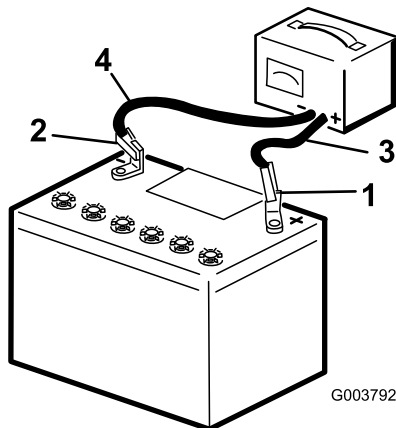

Figure 58
3. Connect the positive lead of the battery charger to the positive battery post (Figure 58).
4. Connect the negative lead of the battery charger to the negative-battery post (Figure 58).
6. When the battery is fully charged, unplug the charger from the electrical source, then disconnect the charger leads from the battery posts (Figure 58).